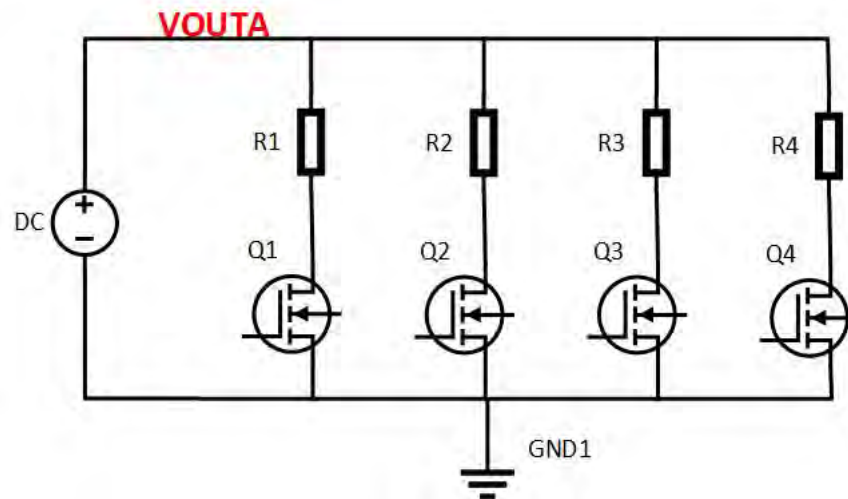

Figure 4-4. On Board Load transient
EVM board has option of load transient test. There are 4 parallel loads connected for RAILA as shown in Figure 4-4. Each load can be turned-ON/OFF independently with SWITCH S3. Place Jumper J14 in order to provide drive signal from onboard 555 timer (~1.2 kHz, 8% Duty cycle) or inject drive signal in TP13 from signal generator. The resistor (0.2ohm) package is 2502 and maximum power dissipation 2W. so External signal duty cycle should not to exceed 20% duty cycle as thermal rating. Each load resistance(R1) is 11.7mohm and Switch RDS(ON) is 2mohm. Total resistance per load bank is 13.7mohm. The total resistance value with all 4 load bank is ~3.8mohm with including board parasitics. so if RAILA output voltage is 0.88V, load step is 230A(0.88/3.8m)